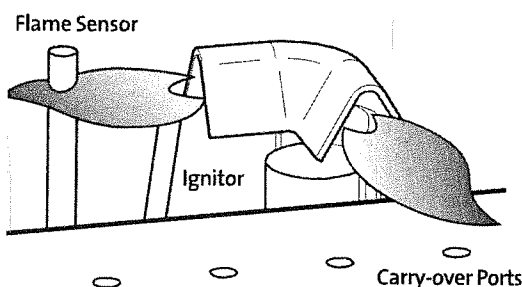

Figure 52. Correct Pilot flame pattern.
4. **PILOT FLAME:** The pilot flame should be steady - not lifting or floating. The flame should be blue in color around the pilot hood, with traces of yellow toward the outer edges. It is important that the pilot flame engulf the top 1/8" of the flame sensor. The pilot flame should project out of the pilot hood 1" from both ports extending to reach the burner plate ports. See fig. 52. The pilot flame can be tuned by turning the adjustment screw located on the front of the valve. See fig. 28.